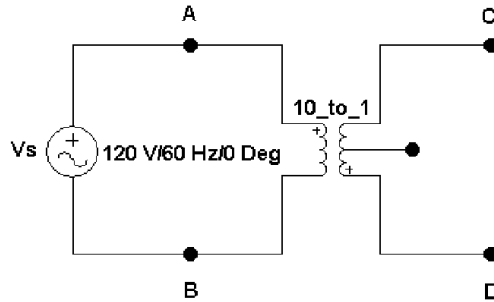
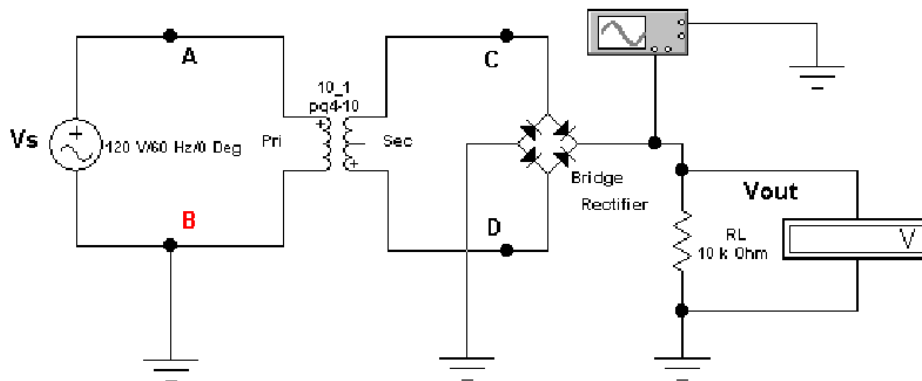

Figure 6.3
Figure 6.4
- Referring to Figure 6.3.
- Referring to Figure 6.4, draw the output waveform  $V_{out}$  for a few cycles. Identify the parts of the voltage waveform contributed by the voltages at nodes C and D.
- Connect your circuit as shown in Figure 6.3 using Electronics Workbench. Connect channels A and B of the oscilloscope to nodes A and C in the circuit. Simulate the circuit.
- Measure the time period (T) of both waveforms. Verify that frequency (f) is very close to 60Hz.
- Connect your circuit as shown in Figure 6.4.
- Build the circuit as in Figure 6.3. Use the transformers provided by the lab instructor. Connect channel 1 and channel 2 of oscilloscope at nodes C and D.